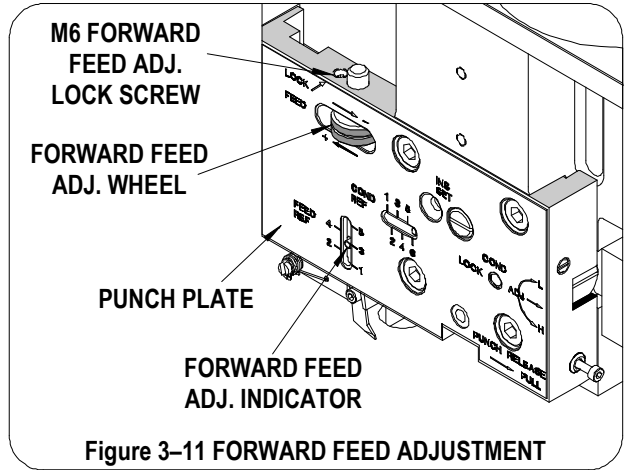

Figure 3-11 FORWARD FEED ADJUSTMENT
3. Loosen the M6 forward feed adjustment lock screw located on the top of the punch plate. See Figure 3-11.